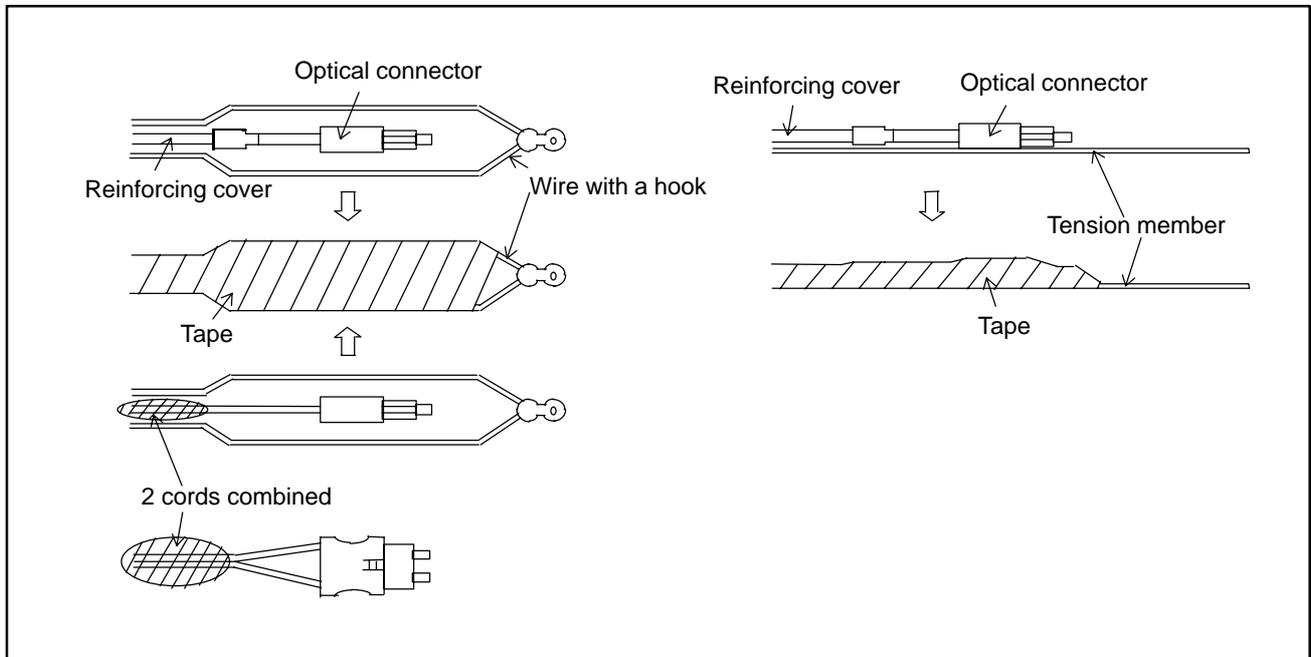

Fig. D.4 Prior to installing a cable
(2) Optical fiber cable
- Before installing an external cable, fix either a wire with a hook or a tension member to the reinforcing cover of the optical connector and pull the wire or tension member, as shown in Fig. D.4. This is done to prevent a tensile force from being applied between the fiber cord and connector. If no tensile force is applied between the fiber cord and connector when installing the cable, you can hold the reinforcing cover of the connector directly and pull it. In the case of an internal cord, which does not have a reinforcing cover, apply the same protective measures, as instructed in Fig. D.4, for that portion of the cable where the two cords are bound together, in order to prevent a tensile force from being applied between the fiber cord and connector. In the same way as for an external cable, if no tensile force is applied between the fiber cord and connector during installation, you can hold the shielded part of the cable directly and